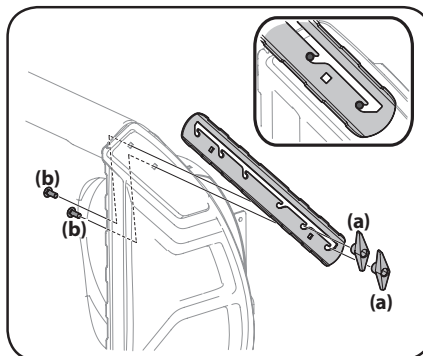

Figure 2-45
1. Remove two carriage bolts (a) and wing nuts (b) that secure each drift cutter, and remove them from the sides of auger housing. See Figure 2-45.
2. Turn the drift cutters around and position them as shown in Figure 2-45 to the outside of the auger housing.